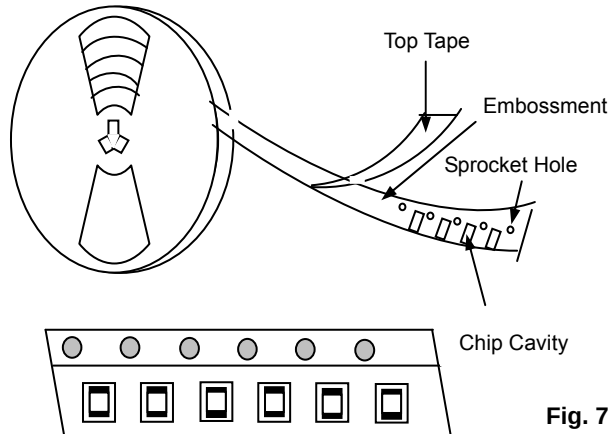

Fig. 7.1-1
- Tape carrier packaging are specified in attached figure **Fig.7.1-1~3**